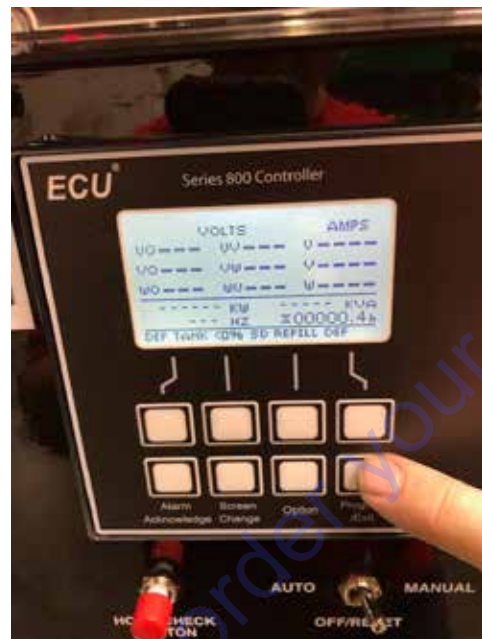

Figure 9. Program/Exit Button
3. Press the **PROGRAM/EXIT** button (Figure 9).